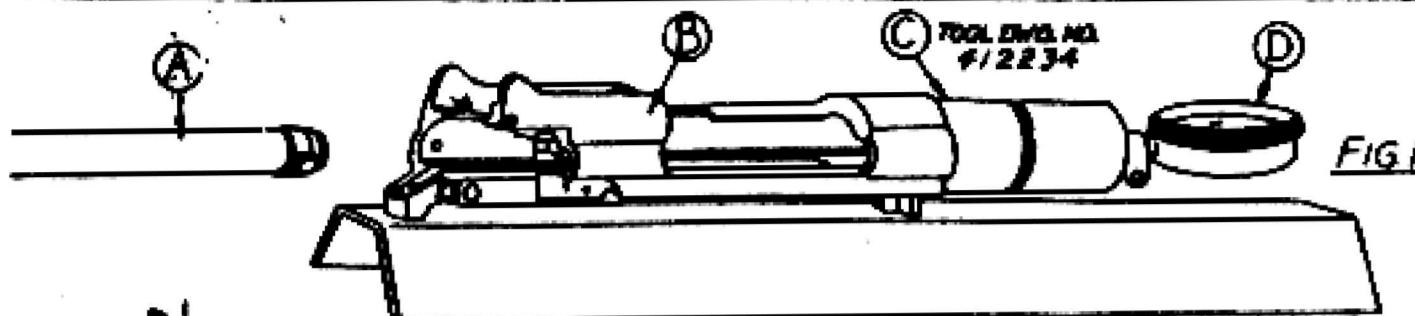

FIG.1
21) PLACE THE EJECTOR ① INTO THE BOLT STOP ② AS SHOWN IN FIG. 1. PRESS THE BOLT STOP SPRING ③ DOWN FIRMLY INTO THE BOLT STOP ②.
22) INSERT THE SPRING SEAT ④ INTO POSITION AT ⑤. FASTEN THE BOLT STOP ② INTO PLACE WITH THE BOLT STOP SCREW ⑥.
25) SLIDE THE EXTRACTOR (F) ONTO THE LUG (G) AS SHOWN IN FIG.2. GRASP THE BOLT AS SHOWN IN FIG.1, AND PUSH THE EXTRACTOR DOWN WITH THE THUMB.